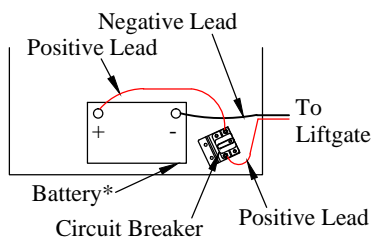

Figure 20: Circuit breaker bracket.
1. **Install** the circuit breaker on the circuit breaker bracket with 1/4" screws and nuts (Figure 20).